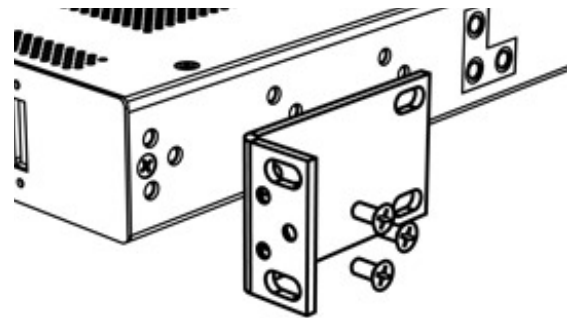

Figure 2. Mounting ears (front-flush position shown)
- Step 2.** Attach the mounting ears with included 10-32 hardware (see Figure 2). Depending on the attachment point selected, the panel will either be front-flush, mid-mount forward, or mid-mount rearward in the rack.